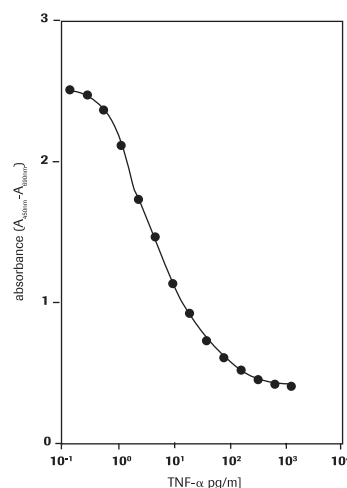

Figure 2: Determination of the cytotoxic activity of human TNF- α on WEHI-164 cells.
- The assessment of growth inhibitory antibodies and physiological mediators (see figure 2).
Procedure Determination of the cytotoxic effect of human tumor necrosis factor- α (TNF- α) on the mouse fibrosarcoma cell line WEHI-164 (see figure 2).
- 6 Measure the absorbance of the samples against a background control as blank using a microplate (ELISA) reader. The wavelength for measuring the absorbance of the formazan product is between 420 – 480 nm (max. absorption at about 440 nm) according to the filters available for the ELISA reader (see figure 2). The reference wavelength should be more than 600 nm.